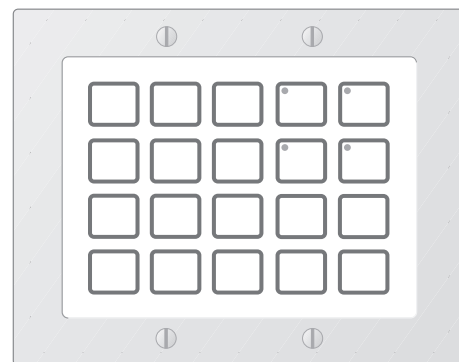

Fig. 1 4-Source Waterpad - Model WPK-4
1. Since there are 4 **sources**, 4 banks will be required. We will need the **WPK-4** Waterpad version as shown in **Fig. 1**.